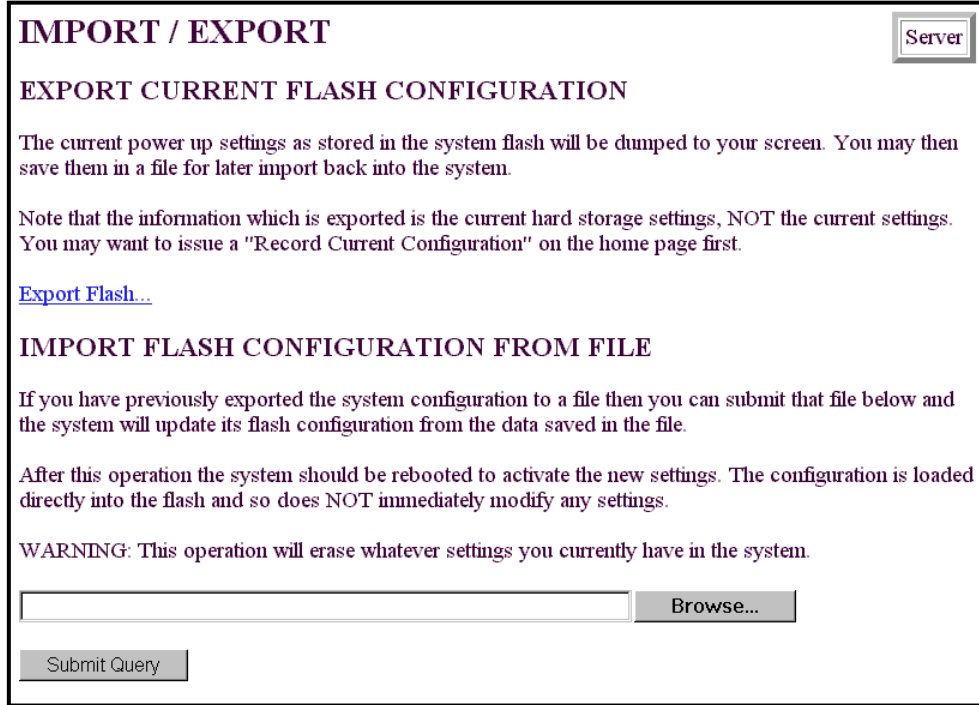

Figure 27. Import/Export main window
- 4. To import or export a configuration, click on Import/Export under the Configuration Menu to display the Import/Export main window (see figure 27).